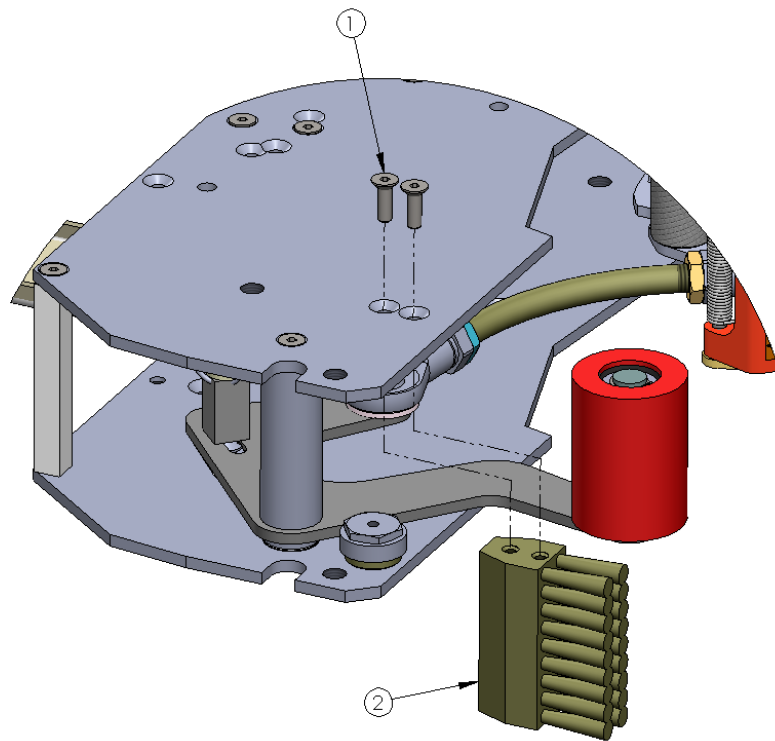

Figure 10-21
3. Install new brush with 2 M5 flathead countersink screws as shown in **Figure 10-21**